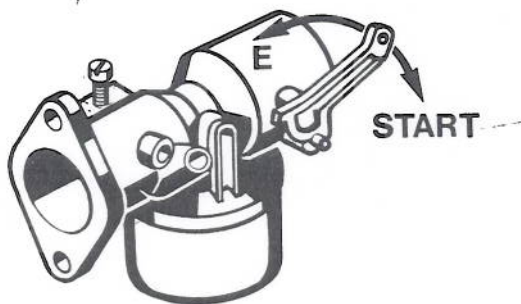

Fig. 2
2. a) with engine cold: Put choke lever on "start" position (fig. 2).
b) with engine warm: Leave choke lever on working position (E, fig. 2).